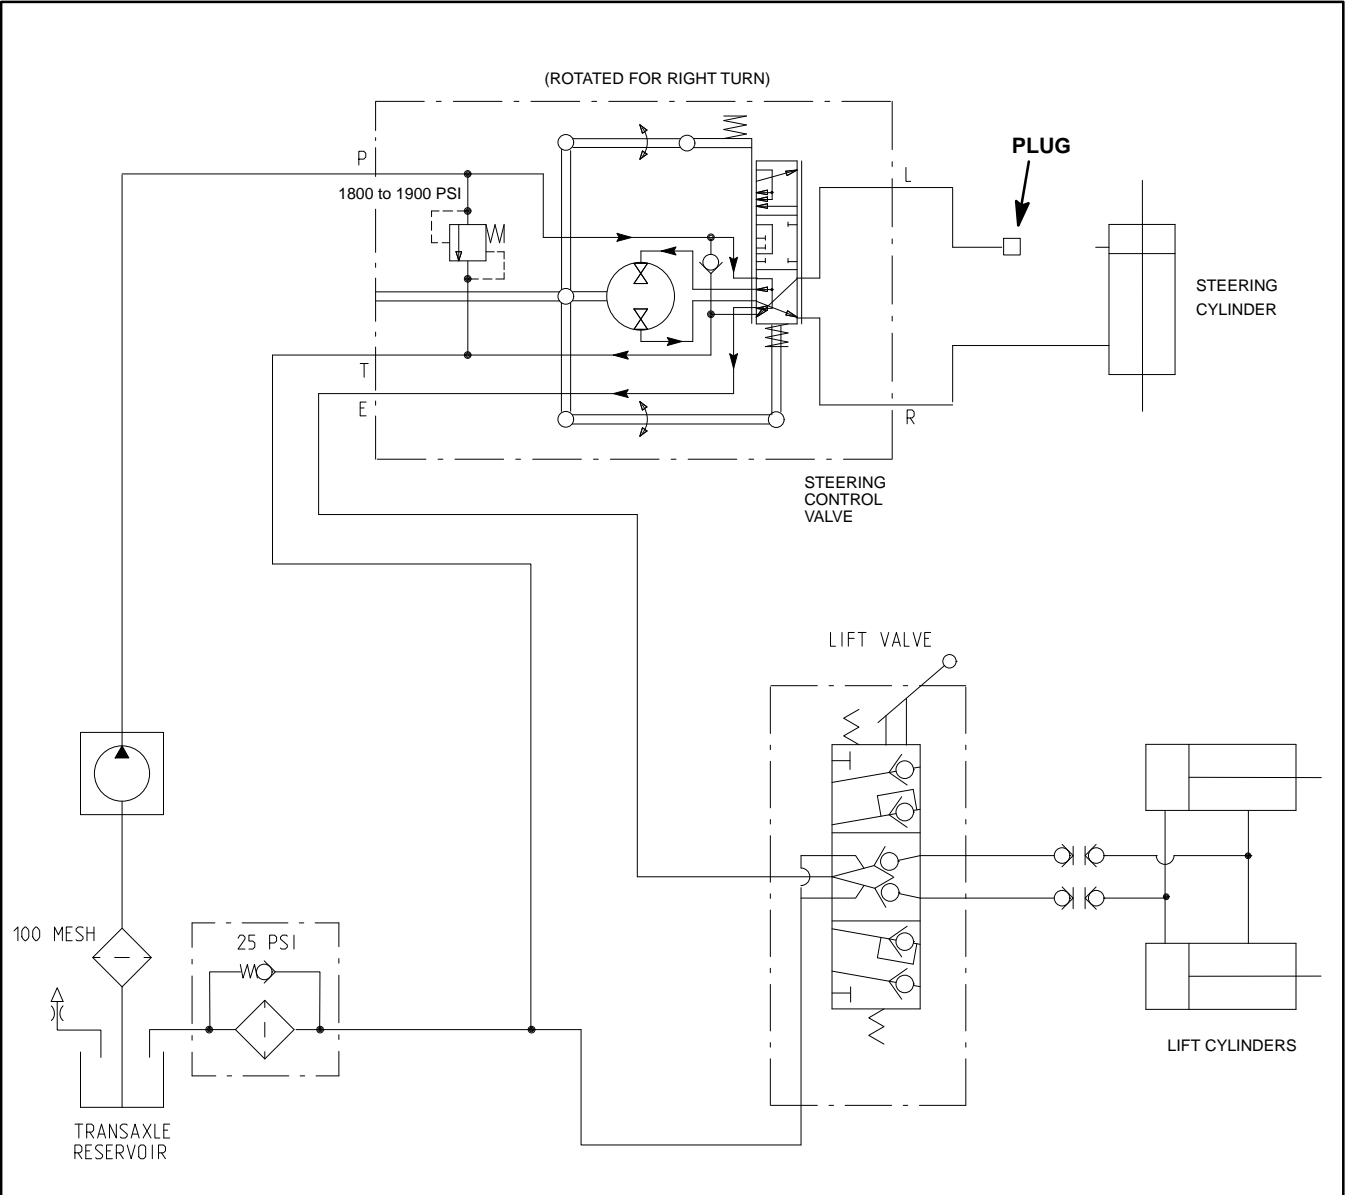

Figure 23
1. Make sure hydraulic oil is at normal operating temperature by operating the vehicle for approximately ten (10) minutes.
E. Clean and remove hydraulic hose from the fitting on the rod end of the steering cylinder. Plug the end of the disconnected hose (Fig. 23).